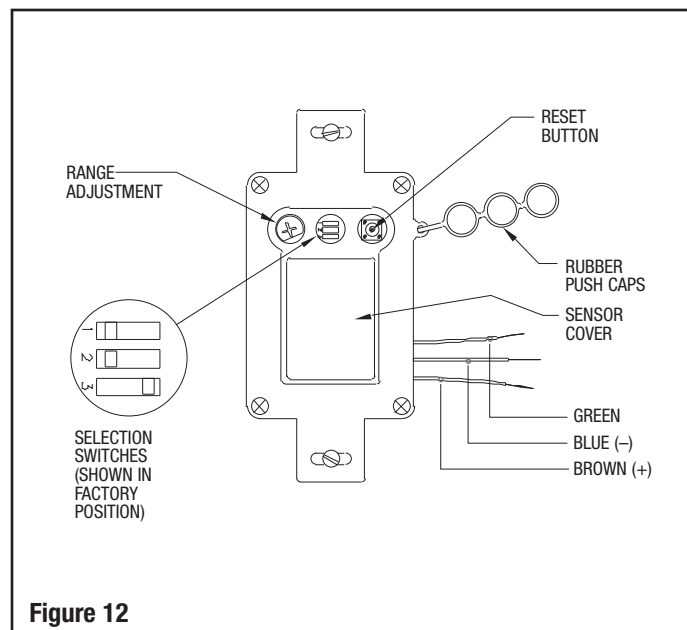

Figure 12
STEP 9 – Test and Adjustment (Figure 12)
- **To Make A Range Adjustment** – Remove the rubber push caps. The range adjustment is shown in Figure 12. Using a small screwdriver, turn the range adjustment clockwise to increase range (maximum range is 60") or counterclockwise to decrease range (minimum range is 12").
• Switch Settings (Figure 12)